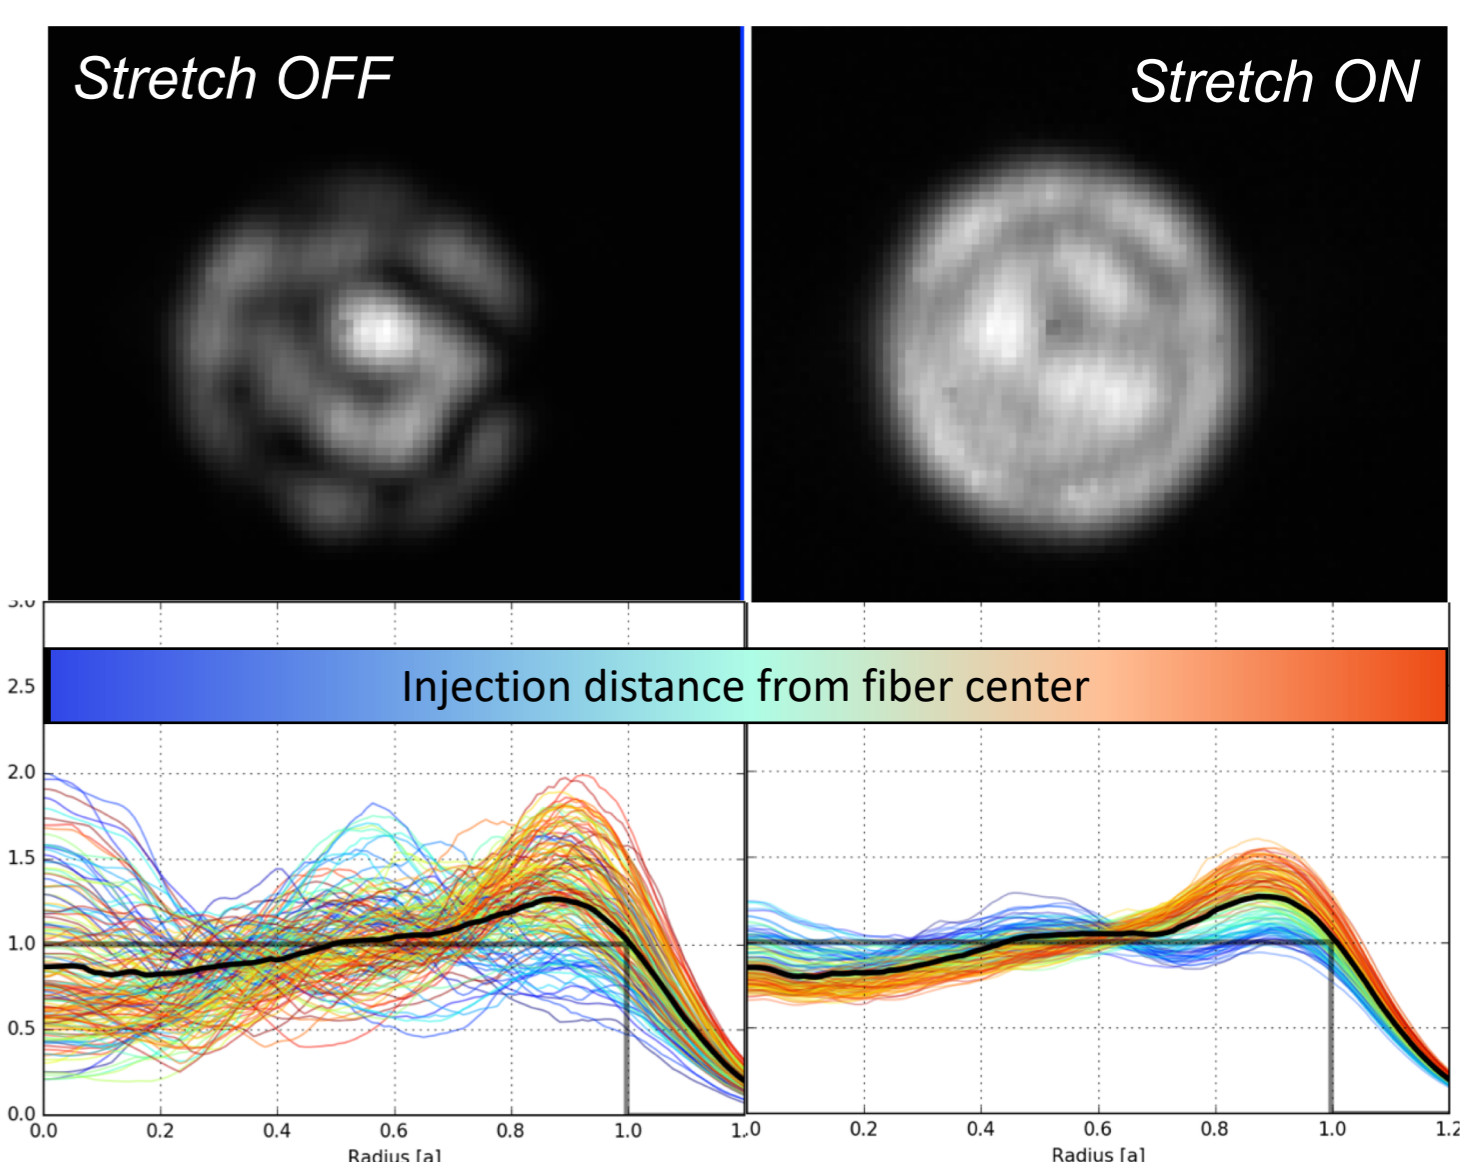

Fig. 8 - Near-field output image (top) and radial profiles vs injection position (bottom).
- Fiber Stretcher modulates the phase between modes \rightarrow uniformizes interference pattern (Fig. 8)